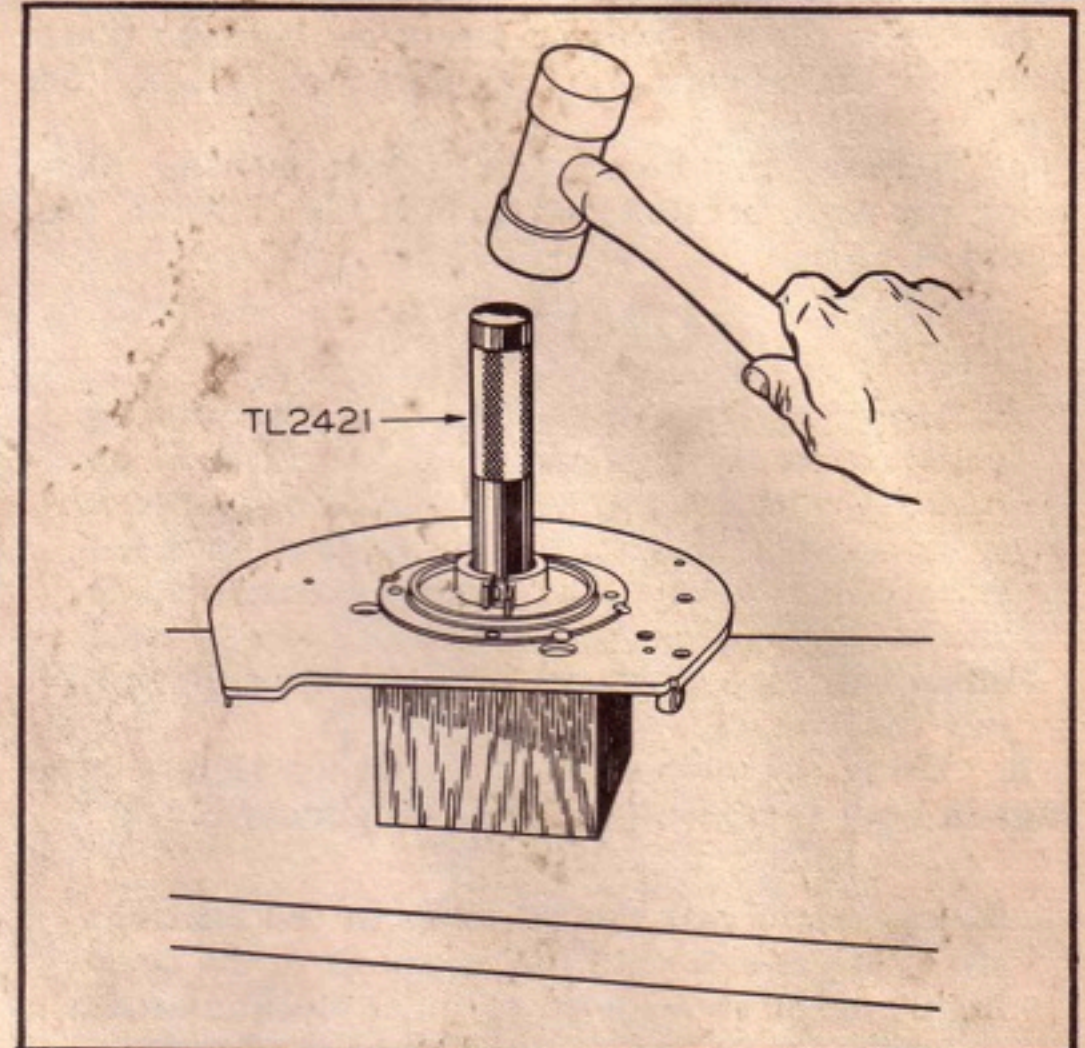

Figure C-13. Driving Crankshaft Bearing Out of Bearing Plate
c. Remove the bearing from the bearing plate, using the main bearing driver, Part No. TL2421. (See figure C-13.)